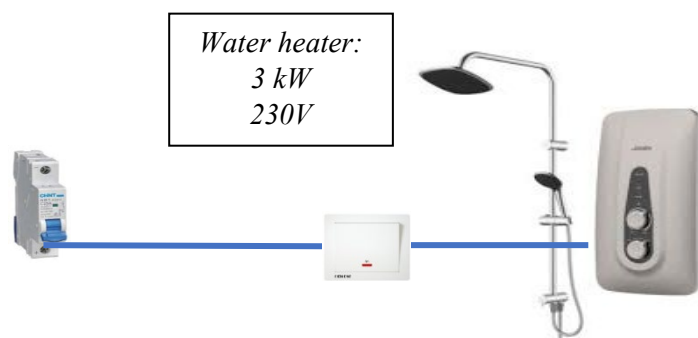

Figure A1(b) / Rajah A1(b)
- (b) Identify the circuit breaker (MCB) rating and the cable size for the following installation as shown in Figure A1(b).